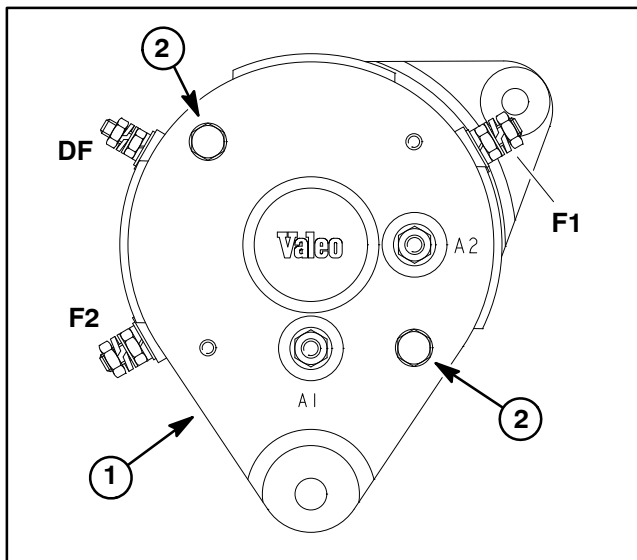

Figure 16
2. If starter/generator is a Valeo brand (identified by Valeo on commutator end cover of starter/generator and through bolts that are in-set from outer diameter of end cover) (Fig. 16):